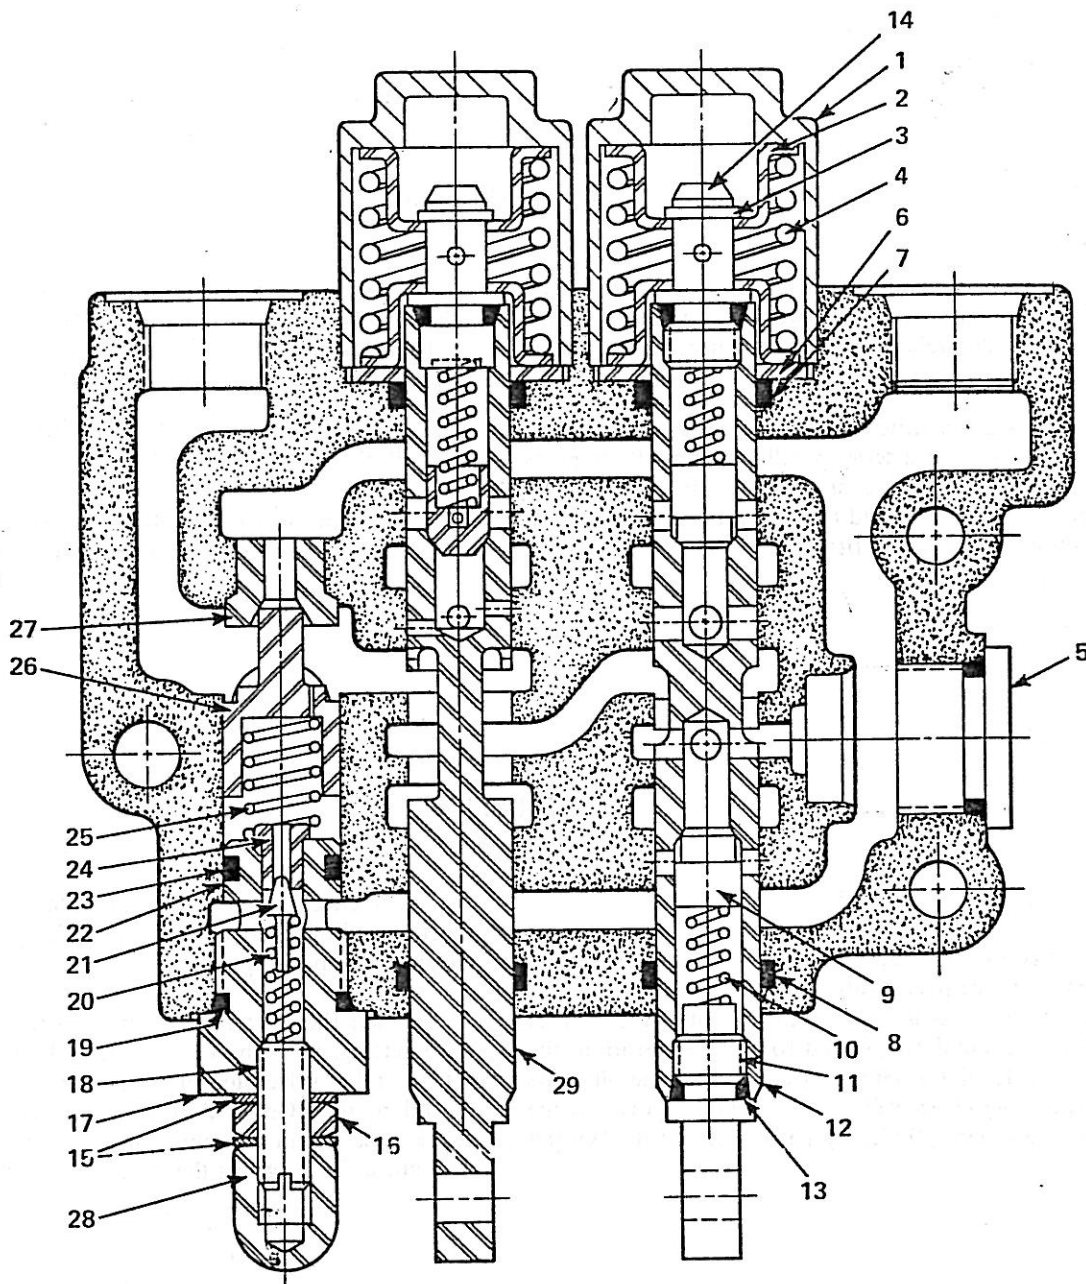
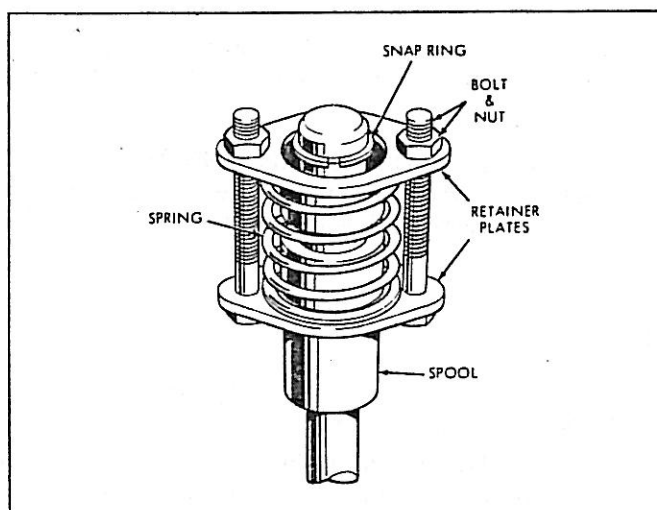

Figure 1. Typical VDSP20 Control Valve
Figure 3. Compressing Spring for Snap Ring Removal
(See Figure 1)
(b.) For compressing the spring on spring-centered spools, two (2) retainer plates with bolts and nuts, as shown on Figure 3, may be used. To operate spring compressor, place one retainer plate over the eye end of the spool and against the bottom spring spacer and the other retainer plate against the top spring spacer. Line up holes and install bolts and nuts. Tighten nuts evenly to compress spring sufficiently to allow removal of snap ring. Caution should be exercised as spring is compressed. Unscrew bolts slowly until all spring pressure has been released.
being installed. Drill a hole in the stock slightly larger than the stud end of the spool. Remove any sharp edges. To use sleeve type tool when ready to install snap ring, compress spring (see Figure 3), then position snap ring on stud end of spool. Position tool against snap ring and tap rather sharply, with a rawhide mallet, until snap ring is seated in groove.
3. REMOVE AND DISASSEMBLE SPOOLS. On Spring-Centered "D", "P" and "C" Type (see Figure 1), unscrew and remove spool cap. Then grasp spring end of spool and withdraw from valve body. Clamp spool in a soft-jawed vise, compress spring (see Paragraph 2b and Figure 3), then remove snap ring, outer spring spacer, spring and inner spring spacer from spool.
4. REMOVE CHECK VALVES. (See Figure 1.) Clamp spool in a soft-jawed vise. Insert a pin thru the hole in spool end (14) and unscrew, then remove spring and check poppet. Reverse the spool in the vise and unscrew eye (11) and remove spring and poppet.
5. REMOVE RELIEF VALVE. (See Figure 1.) Unscrew cap (17). Remove spring (25) and poppet (26). Do not remove seat (27). Disassemble parts in cap (17) but do not remove seat (24). Remove o-rings from cap.
(See Figure 1) To assemble spring centered spool, clamp the spool in a soft-jawed vise, eye end up. Be sure to get correct end as the spool is not symmetrical. Drop in the check poppet; if new parts are not used be sure that poppets are installed in their respective bores. Place spring into poppet. Install new o-ring on spool eye and screw into spool and tighten using loctite thread lock and 30 to 40 inch pounds of torque. Allow loctite to cure before applying hydraulic pressure.
Reverse the spool in the vise and assemble check in this end in the same way. Then place spring spacers and spring on spool. Compress the spring and install new snap ring per paragraphs 2b and 2c and Figure 3 and 4 under Tools.
(See Figure 1) Install relief seat in the bottom of the bore. Install poppet assembly with small end towards the seat. Install large spring in inner diameter of the plunger. Assemble parts on cap (17). If new seat (24) is required press into cap till head is flush with small end of cap. Install screw (18) finger tight against its spring. Screw cap into body and tighten.